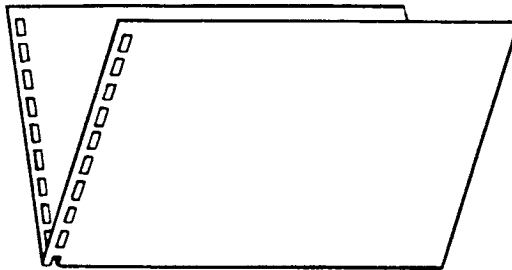

Figure 4.2
7. After completion of the punch cycle, take your test sheet out of the machine and fold it in half (See Figure 4.2). Check to see if the space above the first hole is equal to the space below the last hole. Your test sheet was properly centered if the spaces are equal. If they are not equal, adjust your Side Guide to correct the difference, punch, and repeat this check.